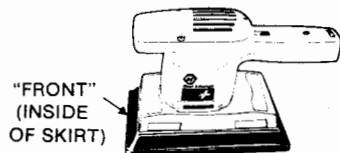

FIG. 16
3. For 7436-04 first attach the skirt by pushing it down over the housing until it stops. Push down at sides so that skirt snaps into grooves on both sides of housing. Ensure that skirt is positioned so that "Front" on inside of skirt is facing to front of sander, Fig. 16).